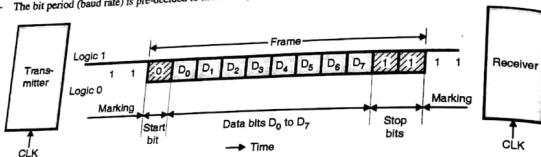

Fig. 7.3.1 : Asynchronous data format
- The asynchronous data format consists of a start bit, data bits and stop bits (also called as frame) as shown in Fig. 7.3.1.